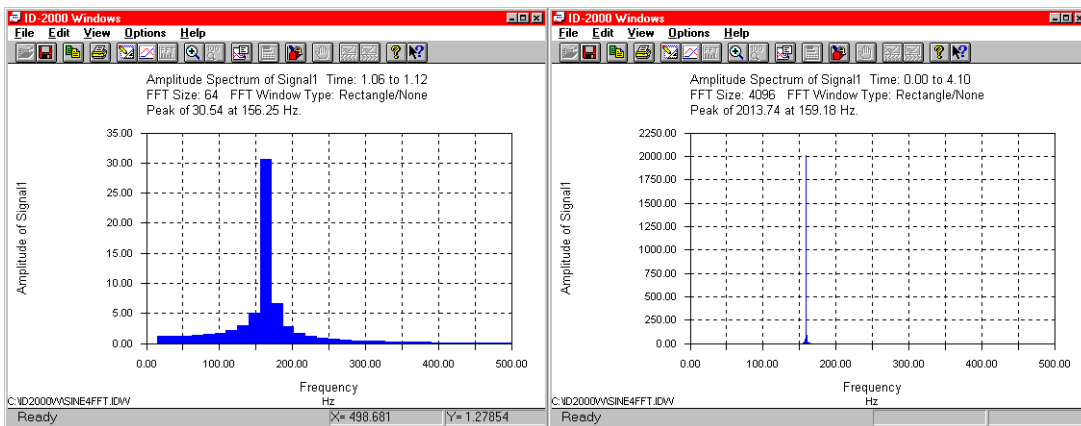

FIGURE 4-2. Effects of FFT sizes
Figure 4-2 contains Amplitude Spectrum plots of the exact same data using both the minimum (64) and maximum (4096) number of data points for the FFT calculation.